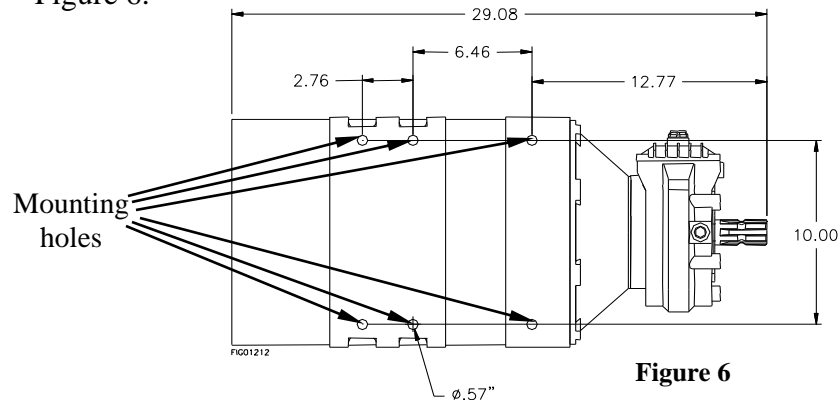

Figure 6
3. Bolt the generator to the trailer base using six, 1/2" grade 5 bolts. See Figure 6.
3. Mount the plates to the concrete slab using six, grade 5, size 1/2" bolts. See Figure 6.